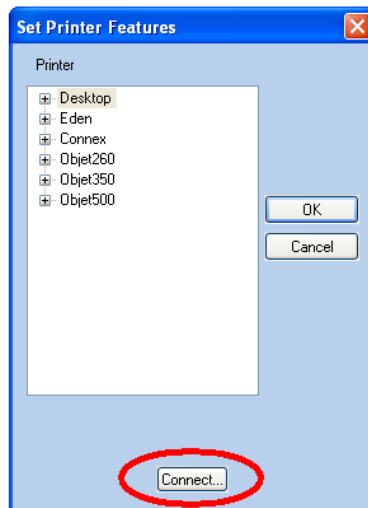

Figure 5-85 Connecting to a printer (A)
2. In the *Set Printer Features* dialog box, click *Connect* (see Figure 5-85 on the previous page).